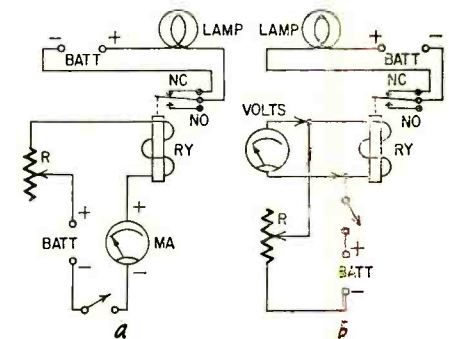

Fig. 3—Test circuits for dc relays: a—ammeter method; b—voltmeter method.
Relays, both old and new, should be tested for the pull-in and dropout points. To do this use either of the two methods shown in Fig. 3. In dc relays the current is proportional to the voltage since coil resistance is fixed. Hence, wattage is often specified for pull-in and dropout (stage 2 current in operate and release cycles). Either method can be used to test the relay in its circuit (ammeter in series or voltmeter in shunt). For accuracy, use an ammeter whose resistance is less than 5% of the
The battery used in Fig. 3 should have more than twice the anticipated pull-in voltage. The rheostat (R) drops battery voltage to coil voltage—use about double the coil resistance for R. Finally, equip the working circuit with some sort of visual indicator like the lamp and battery shown or an ohmmeter to indicate relay action, either pull-in or dropout.
Spring tension can be adjusted to supplement this action when making range adjustments. A test as indicated in Fig. 3 or in the operating circuit should always be made to define the operating points.